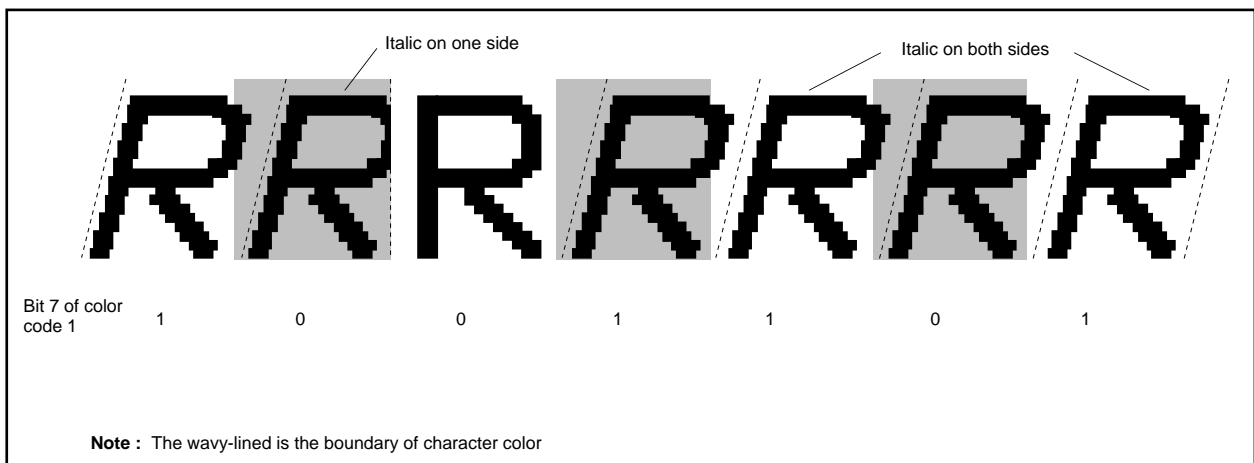

Fig. 75. Example of Italic Display
The display example of the italic and underline is shown in Figure 75. In this case, "R" is displayed.
- 3:** The boundary of character color is displayed in italic. However, the boundary of character background color is not affected by the italic (refer to Figure 75).
- 4:** The adjacent character (one side or both side) to an italic character is displayed in italic even when the character is not specified to display in italic (refer to Figure 75).